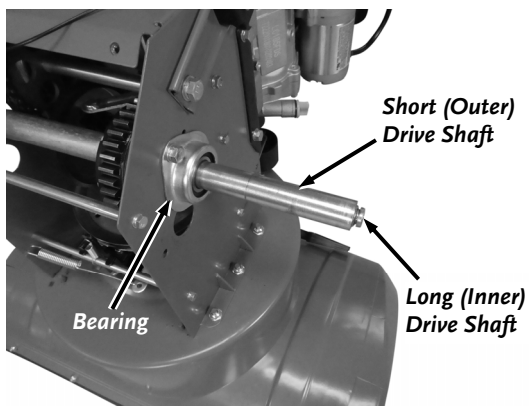

Figure 72
9. Hold the larger diameter outer Shaft of the right-side Axle Shaft while hitting the smaller diameter inner Shaft with a Dead Blow Hammer (**Figure 72**). This will push the smaller Shaft in, separating it from the larger outer Shaft.
8. Install the right side Wheel Bearing Assembly (**Figure 72**).